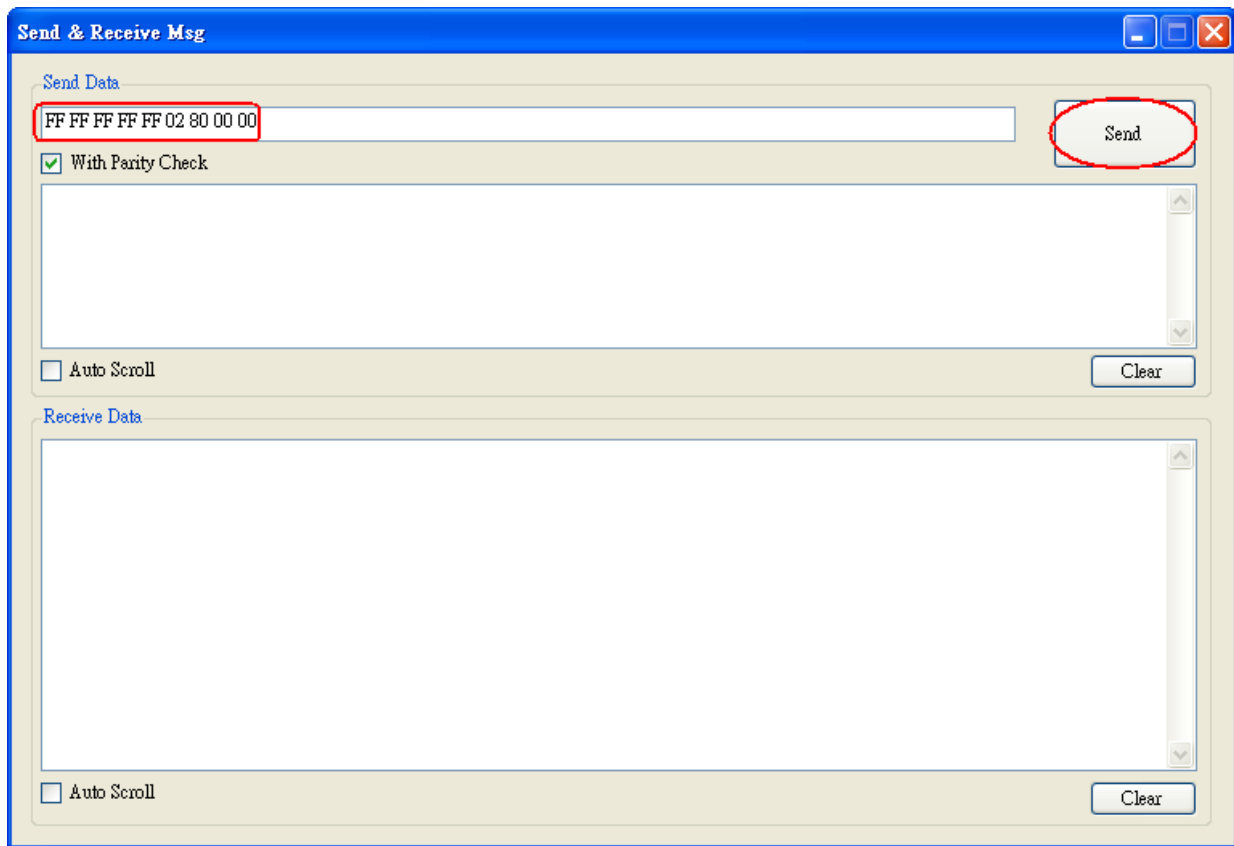

Figure 4-11: Send HART Command
- (2) Please type the HART command in the "Send Data" field and click "Send" button to send out the HART command like Figure 4-11.